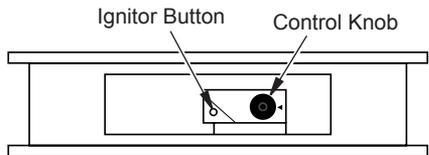

Figure 19 - Control Knob and Ignitor Button Location
4. Wait five (5) minutes to clear out any gas. Then smell for gas, including near the floor. If you smell gas, STOP! Follow "B" in the safety information, column 1. If you don't smell gas, go to the next step.
5. Turn control knob counterclockwise ↻ to the PILOT position. Press in control knob for five (5) seconds (see Figure 19).